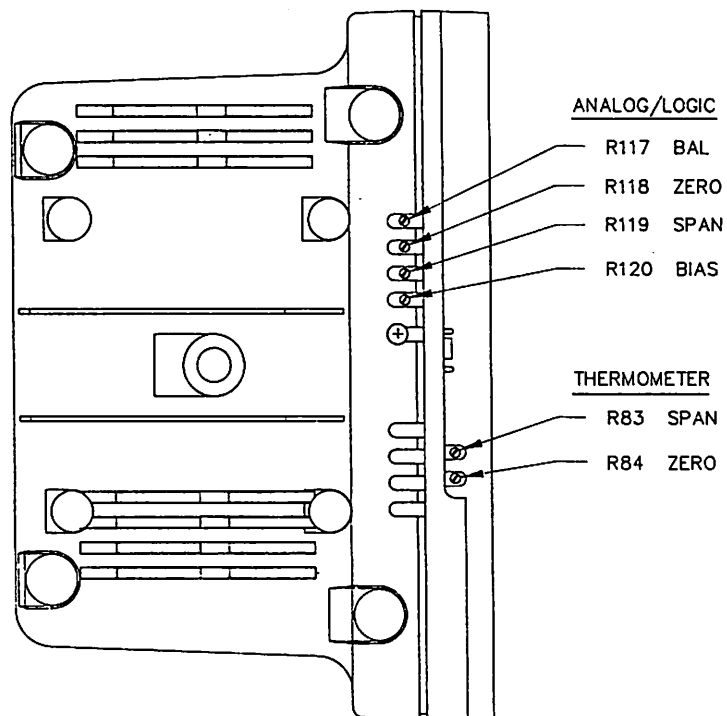

Figure 6-6. Logic/Analog and Display/Thermometer
- c. Adjust R118 (ZERO) on the logic/analog board to a reading of $0.000 \pm 0.001V$ on the DMM. (See figure 6-6.)
- m. Adjust R119 (SPAN) on the logic/analog board for a reading that fluctuates between 200 and 202 on the SYSTOLIC display, being sure that the test gauge stays at 201.0 mmHg during this adjustment. (See figure 6-6.)
- o. Adjust R117 (BALANCE) on the logic/analog board until a reading of 128 ± 4 appears on the DIASTOLIC display, being sure that the test gauge stays at 200.0 mmHg during this adjustment. (See figure 6-6.)
- h. Repeat the inflation/deflation sequence and adjust R120 (LEAKER BIAS) on the logic/analog board (see figure 6-6) until the average between the minimum and maximum readings on the DMM at 200 and 50 mmHg is $2.5 \pm .15$ volts.
- d. Verify that the display reads 000d (± 1); if it does not, adjust R84 until the display reads 000d (± 1). (See figure 6-6.)